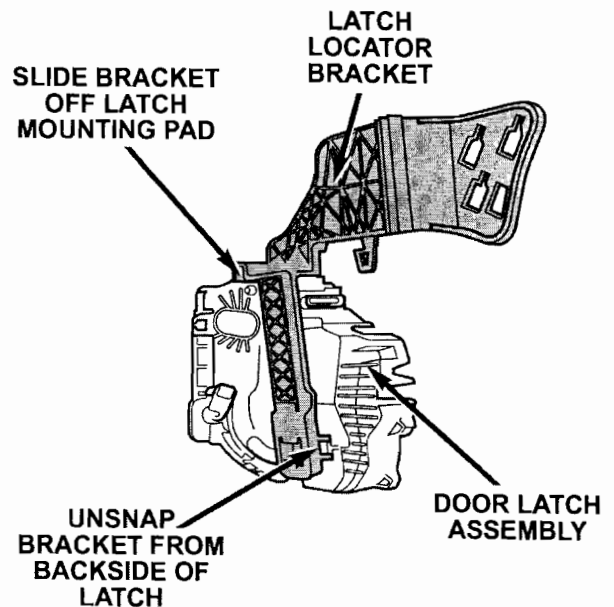

Figure 7 – View from Inside the Door
19. Remove the latch locator bracket from the latch and discard the locator bracket (Figure 7).